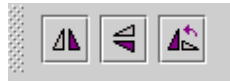

Figure 24 : Design tool bar
- ◆ Design tool bar (Figure 24): it gives access to the rotation commands on a component or an equipment: